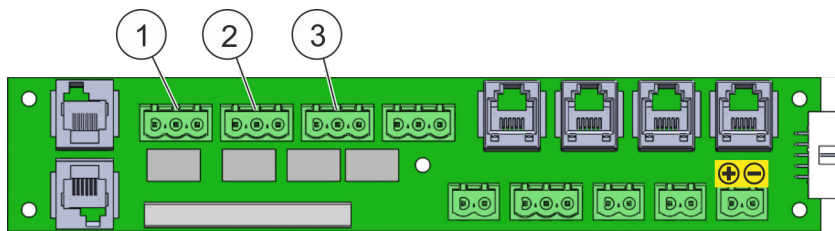

Fig. 18: Potential-free contacts
- Use the floating contacts (Fig. 18 /1 to 3) for the device shutdown that is to be realized by the operator.